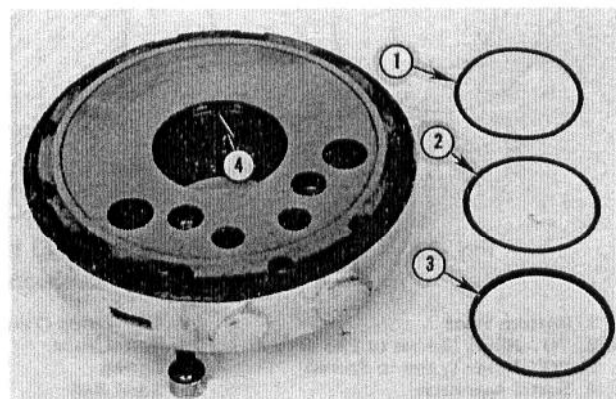

Fig. 33 — Wedge Seal and Related Parts Removed From Top Plate
c. Remove wedge seal, spiral ring and wave washer, see Fig. 33.